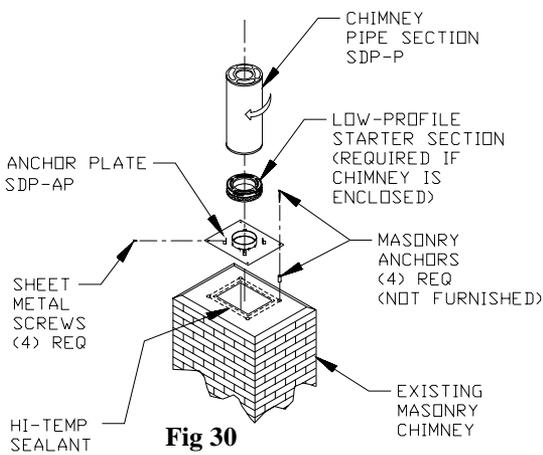

Fig 30
- 2. Mount Anchor Plate:** Chimneys for masonry fireplaces begin with an **Anchor Plate**. Center the **Anchor Plate** on a brick or concrete base over the masonry flue opening. Seal the **Anchor Plate** with a high-temperature mastic, and secure with (4) 1/4-inch masonry anchors. (Figure 30). Be sure it is level. The **Anchor Plate** is available in two styles. One contains the perforated **Starter Section**, which is used in